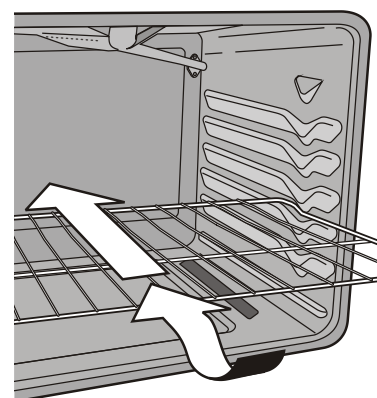

Fig. 5
**To replace-** Rest the oven rack at the front of a left and right rack guide along the oven walls so that the oven rack rests level. Tilt front of rack upward and slide rack in past the stop position. Then bring the rack to a level position and slide the rack completely inside oven (Fig. 5).